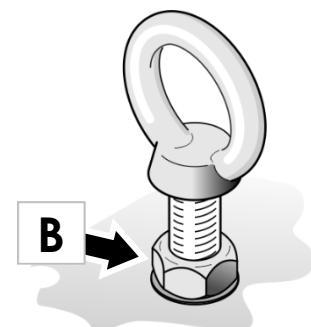

Figure 10. Eyebolt locked
5. See Figure 10. Holding the eyebolt to prevent it from turning, tighten the nut **B** until it locks the eyebolt in position in the end of the fixture.